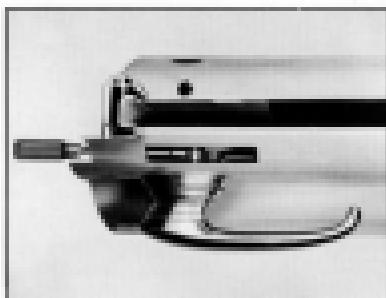

Fig. 86. 98 Series Outside Door Handle Removal
3. Enter end of tool into socket or tumbler on lock mechanism as shown in door cut-away illustration, Fig. 86, and loosen hexhead $\frac{1}{4}$ " retaining screw sufficiently to remove door handle.